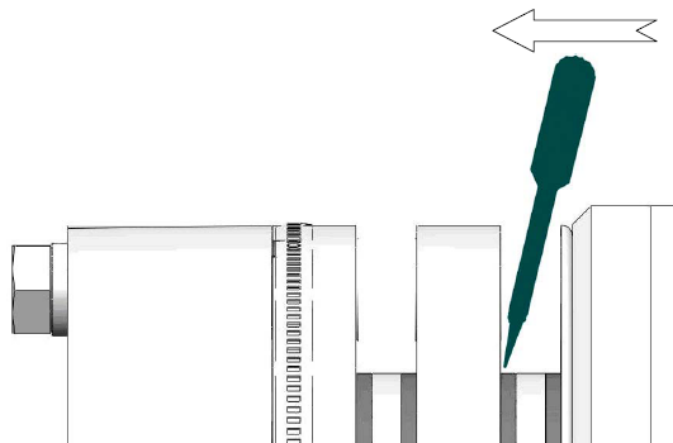

Figure 97 Pry stuck brake open
2. Energize both Normal and Emergency brake coils. Use a flat head screw driver to pry open the brake lining from its braking surface as shown in the following picture. Then repeat it for both sides of lining surfaces and for both brakes. See Figure 97.